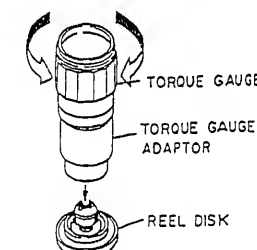

Fig. 3-14
3. TENSION AND TORQUE CHECKS (Fig. 3-14)